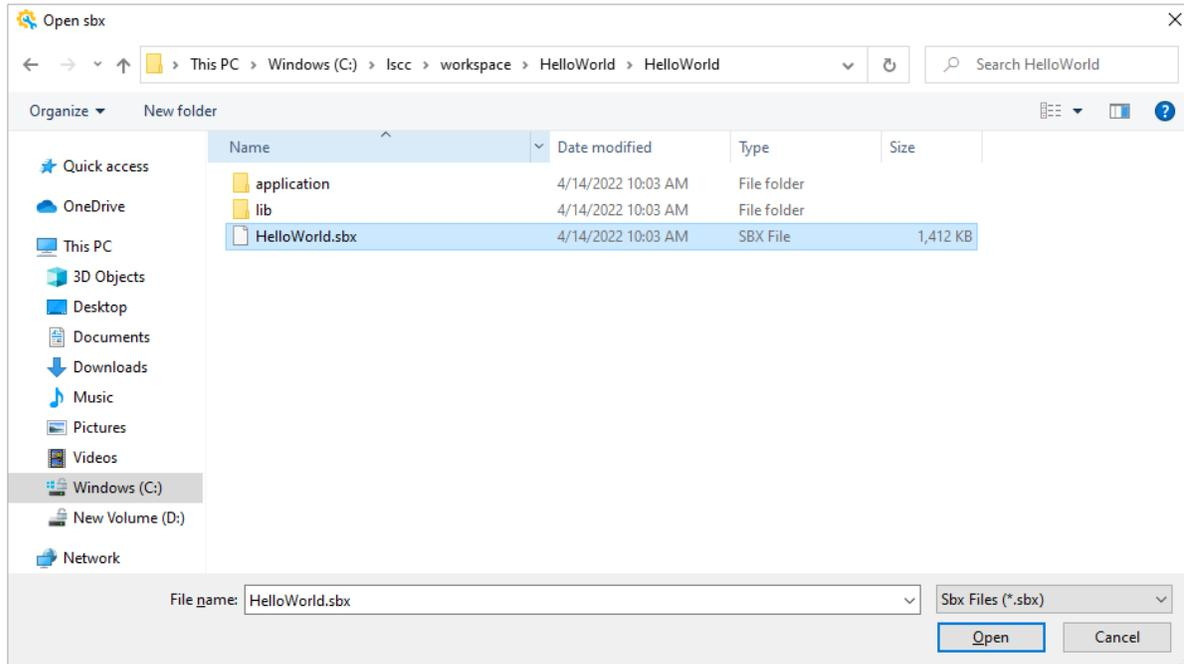

Figure 2.15. Open Existing Project
2. Browse to find the default project workspace folder or your own project workspace folder. Choose the sbx file, such as HelloWorld.sbx (Figure 2.15).